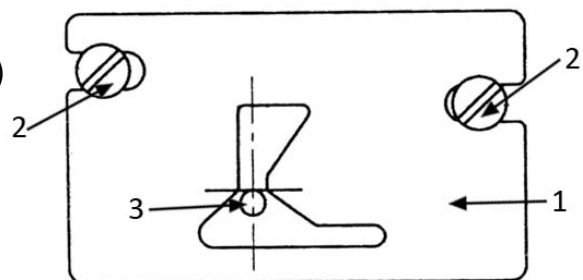

Fig. 24
- A. Remove the needle plate, loosen screws (2) of a base (1), Fig. 24.
- B. Set the position of base towards the the needle (3), as same as in the Figure, tighten screws (2).